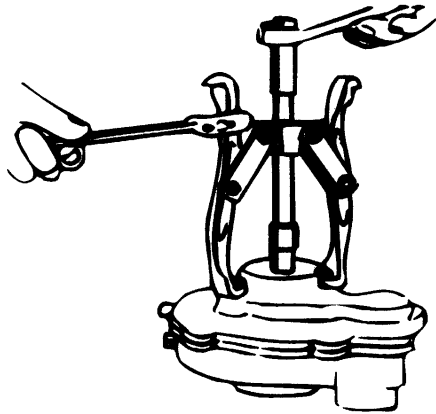

Figure 6. Pulling end plate from body
2. With a 9/16" wrench, unscrew 6 nuts (1) from capscrews (12) and remove capscrews.
3. Screw two screws (12) into opposite threaded holes on end plate (2). Install puller (Fig. 6). Tighten puller with a wrench to pull end plate (2) from body (3). Lift off end plate (2).